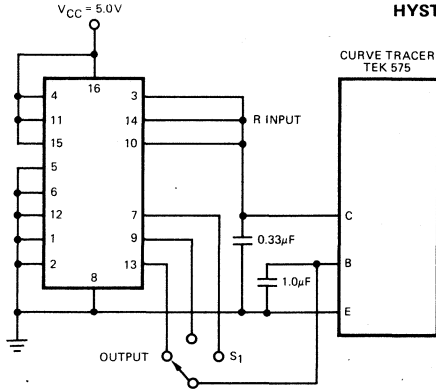

Fig. 1
Verify in each of three (3) positions of  $S_1$  (Fig. 1) that the following occurs per Fig. 2.